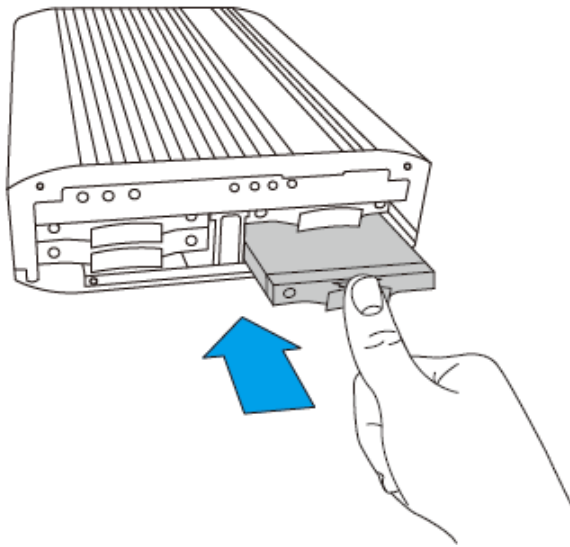

Figure 3-6: HDD Installation
Step 4: Insert the drive tray into the IBX-660 all the way to the end (**Figure 3-6**).